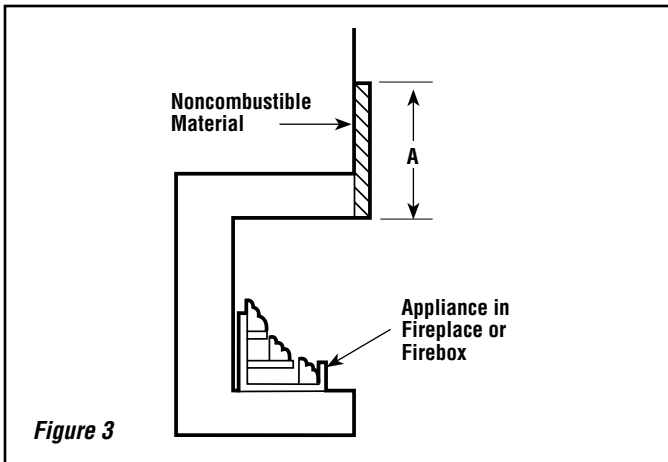
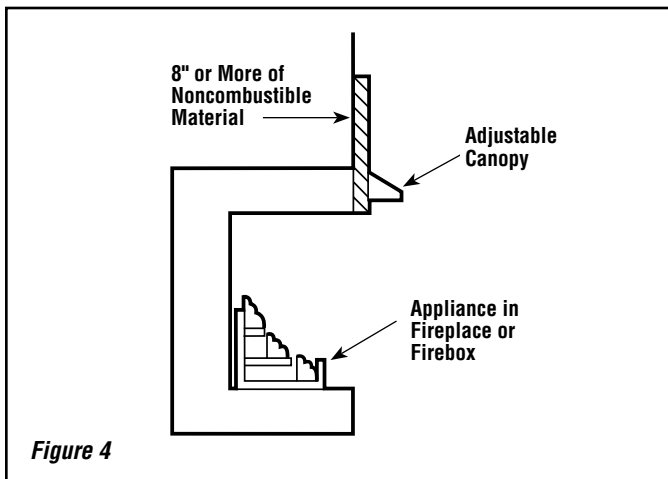

Figure 3
Figure 4
**Step 3. Noncombustible materials (minimum requirements):** To install the appliance without wood mantels, shelves or other combustible projections directly above the opening of the fireplace (firebox) refer to *Figure 3 and Table 1*. Note that at least 8" of noncombustible material must be installed above the appliances described in this manual.
Less than 8"	Extend noncombustible material to at least 8" and install adjustable canopy ( Figure 4 ). OR Extend noncombustible material to a height of at least 12".
8" minimum to 12"	Install adjustable canopy and observe profiles shown in Figure 4 . or Extend heat resistant material to at least 12" and observe profiles shown in Figure 3 and 5 .